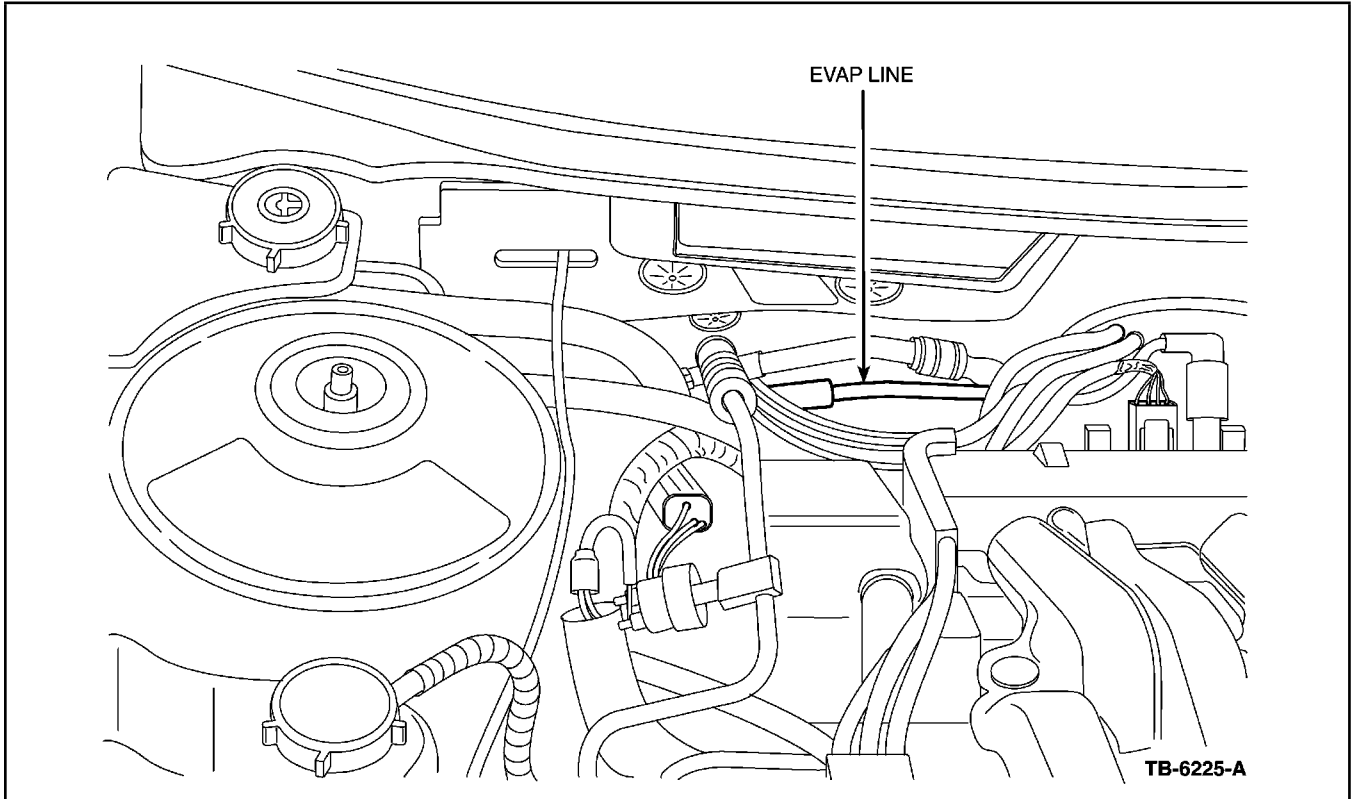

Figure 1 - Article 00-25-6
3. Disconnect EVAP emissions line at back of engine (Figure 1).